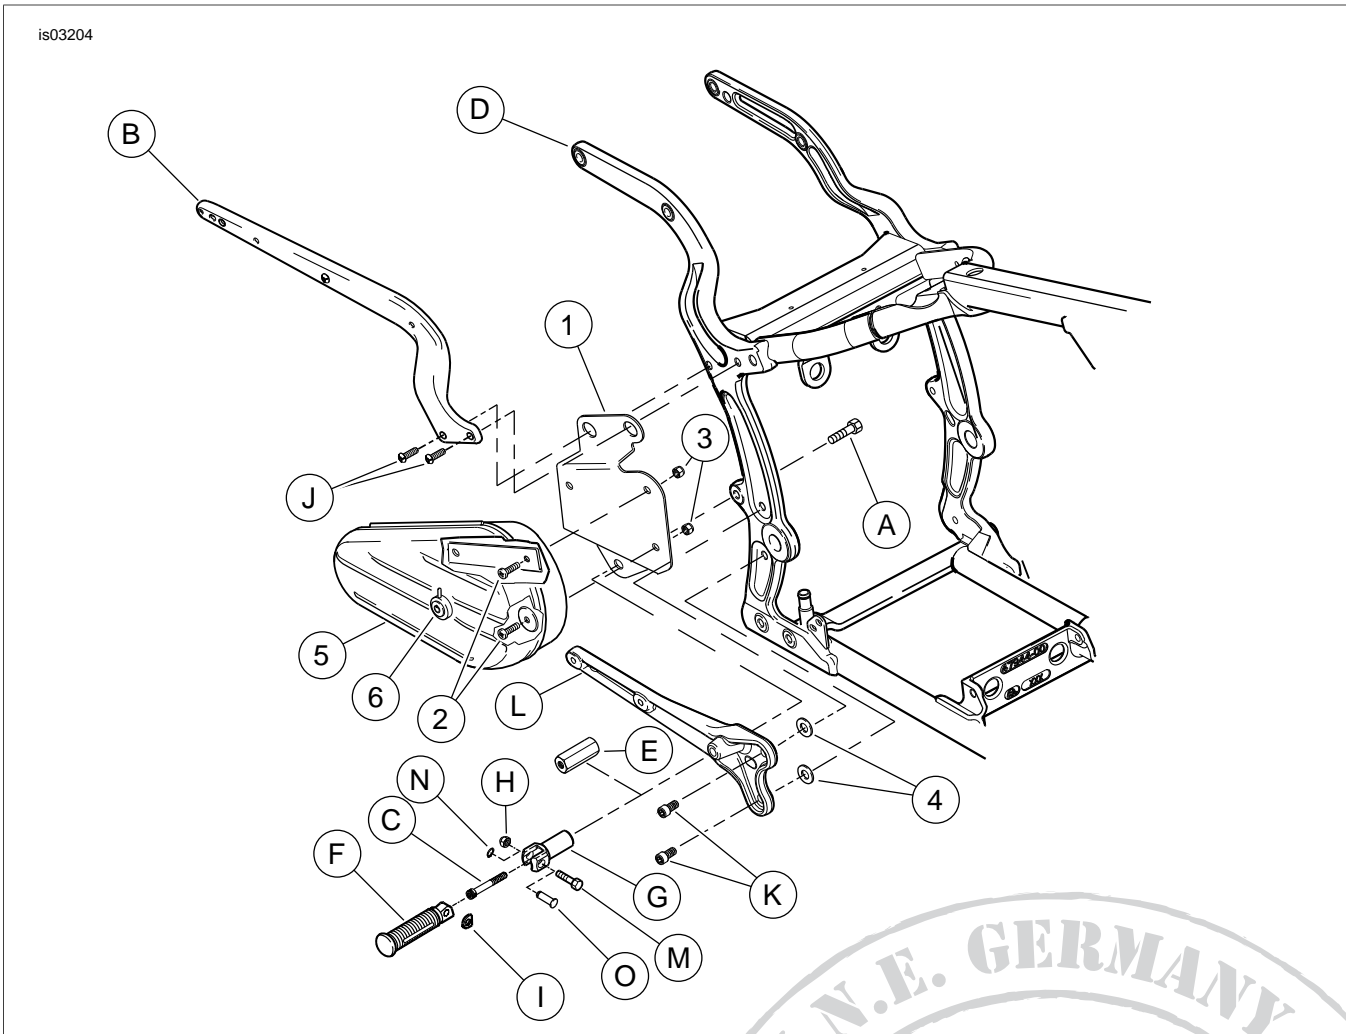

Figure 1. Service Parts: Right Side Tool Box Kit
See Figure 1 and Table 1.
- See Figure 1. Attach the toolbox (5) to the toolbox mounting bracket (1) using three pan head screws (2) and Nylock nuts (3).
- Remove the two button head screws (J) which secure right rear fender support (B) to the frame (D). Retain screws for reassembly.
- Remove retaining ring (N), clevis pin (O), spring washer (I) and footrest (F).
- Remove the socket head screw (C) that secures the footrest support (G) to the frame (D).
- Remove two socket head screws (K) from the exhaust support (L).